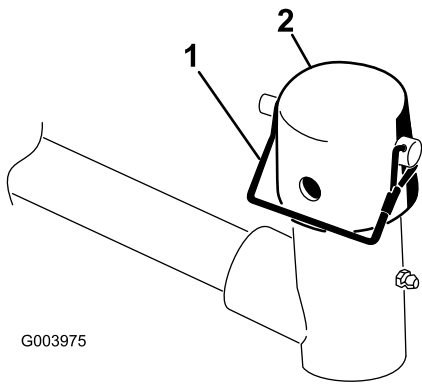

Figure 6
7. Remove the snapper pin and the cap from the lift-arm pivot yoke (Figure 6).
Note: Use the slot if a steering cutting unit is desired or use the hole if the cutting unit is to be locked in position (Figure 6).